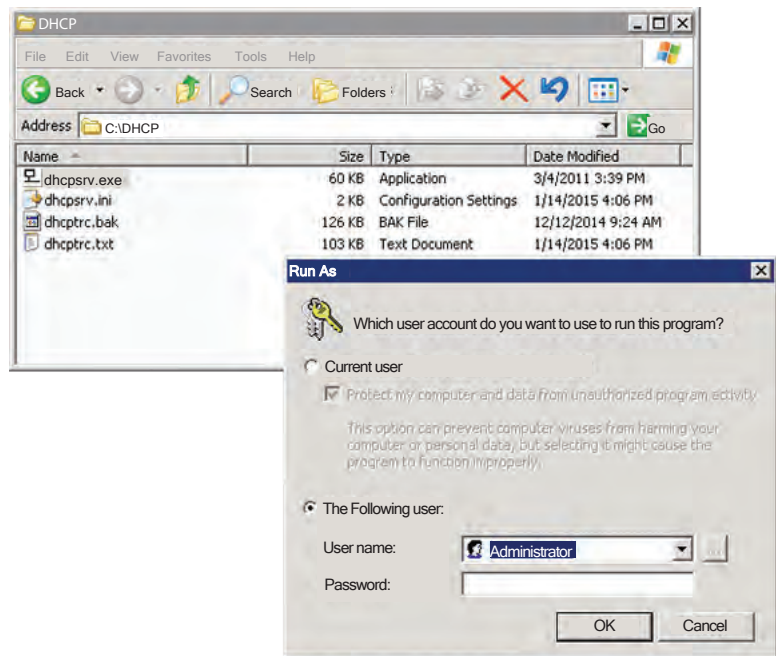

Figure 121. DHCP.SRV.EXE Run as administrator.
10. Select **"Administrator,"** provide the administrator password, and click **OK** (see Figure 121).